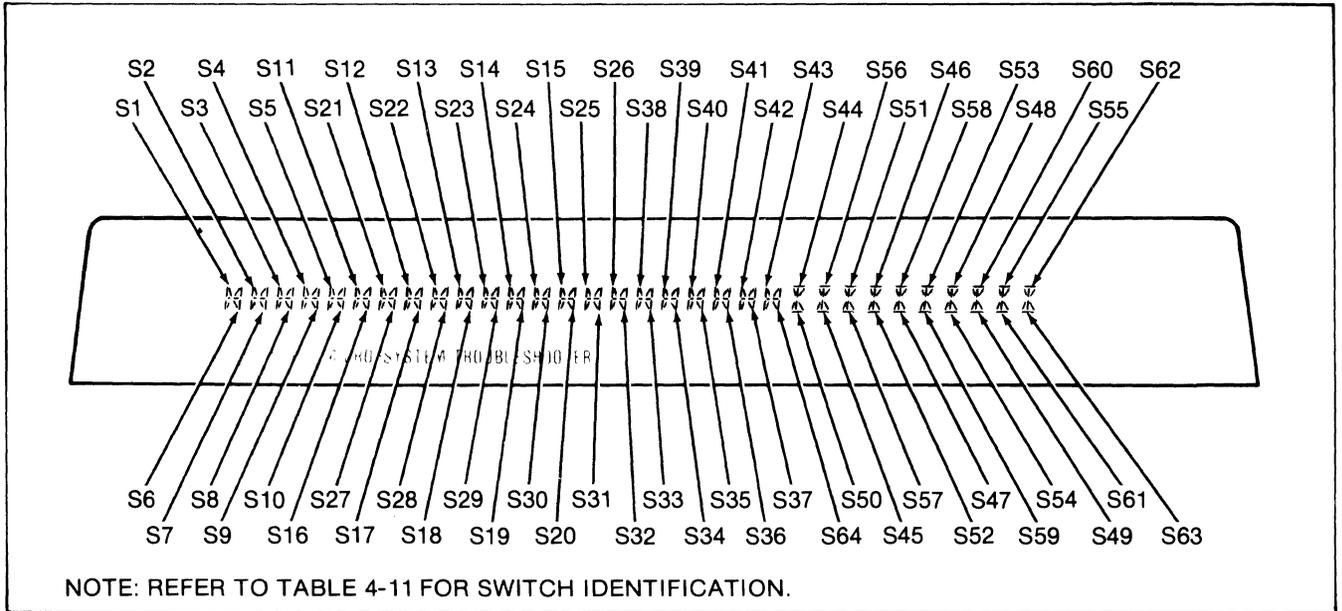

Figure 4-9. Keyboard Test Pattern
4-79. The keyboard test, when initiated, writes the segment pattern shown in Figure 4-9 to the display. Initiate the keyboard test by momentarily jumpering TP5 (ground) to TP3 (located on the Display Assembly) or, if the UUT is connected to a tester 9010A, perform WRITE @ 10081 = 00, followed by WRITE @ 10081 = 08. Note the following:
- As each key (except HIGH and LOW) is pressed, the corresponding portion of the display goes out. Pressing all keys results in a blank display. Refer to Figure 4-9 and Table 4-11 for key/switch identification.